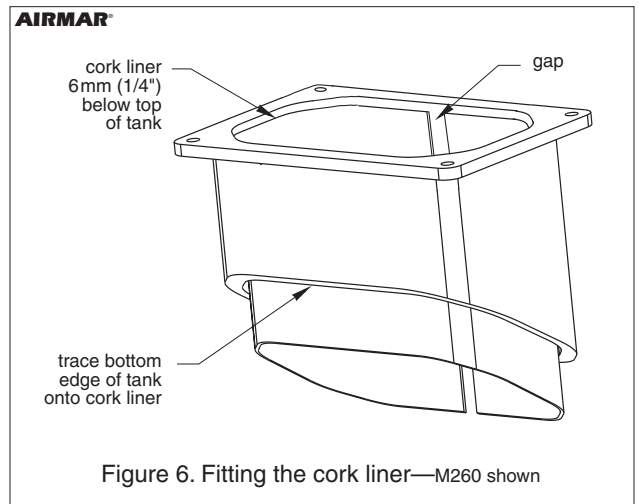

Figure 6. Fitting the cork liner—M260 shown
4. The tank is provided with a cork liner to reduce sound echoes. After the tank has been cut, wrap the cork liner around the *inside* of the tank (see Figure 6). Butt the sides of the liner along the center of the tallest side of the tank. *Note: There may be a gap between the edges which will not affect performance.* Holding the cork liner 6mm (1/4") below the top of the tank, trace the bottom edge of the tank onto the liner with a pencil.